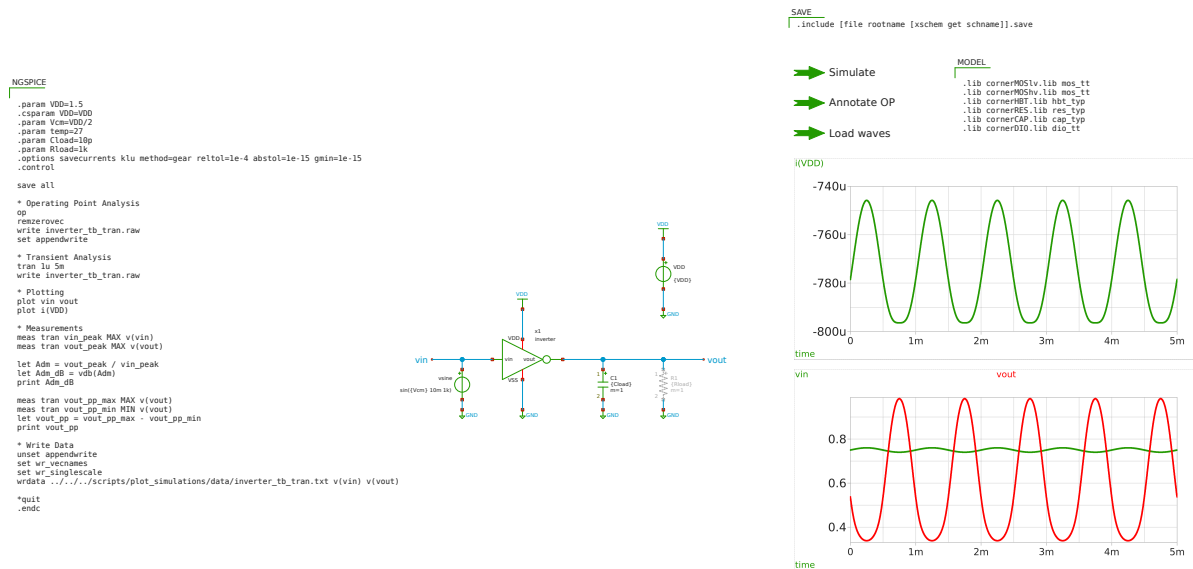

Figure 8: Xschem testbench `inverter_tb_tran` (single-channel transient response on inverter).
- `inverter_tb_tran.sch`, single-channel transient response (see Figure 8),